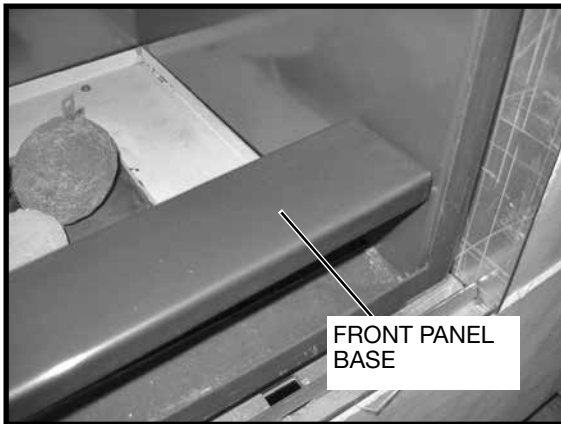

Figure 63: Front panel base.
1. Remove front panel base (Figure 63). Also remove rear panel base if Black Diamond Burner is fitted.